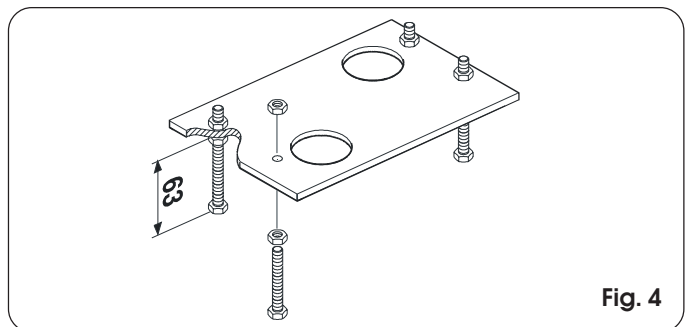

Fig. 4
- 1) Assemble the foundation plate as in Fig. 4.